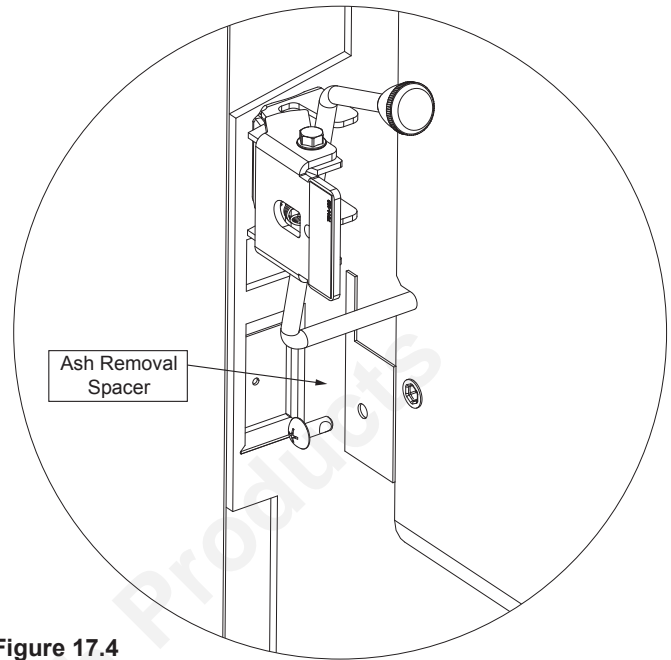

Figure 17.4
3. Install ARS Spacer on left hand side with one bolt using phillips head screwdriver (**Figure 17.4**).
2. Install ARS Spacer on left hand side with one bolt using phillips head screwdriver (**Figure 17.4 on page 17**).